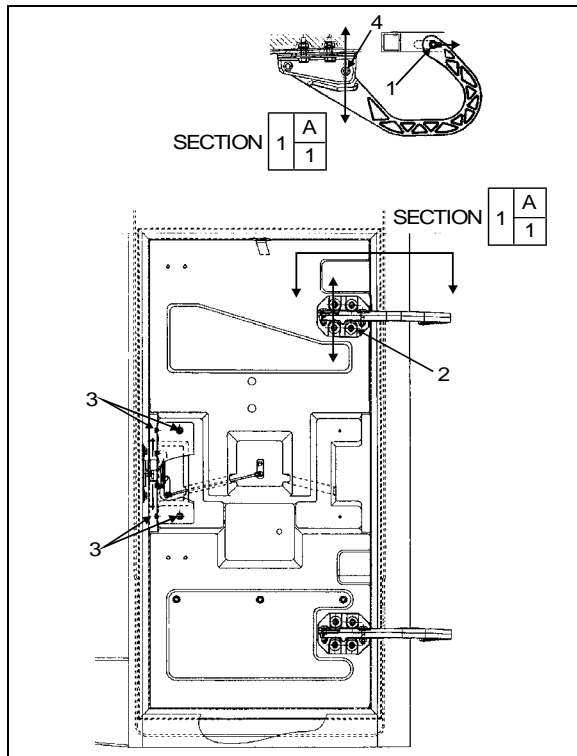

FIGURE 77: MAIN POWER COMP. DOOR
1. Loosen nut (1, Fig. 77).
3. Tighten nut (1, Fig. 77).
4. Loosen nut (4, Fig. 77).
7. Loosen screws (2, Fig. 77). Screws allow the door to be shifted "UP or DOWN".